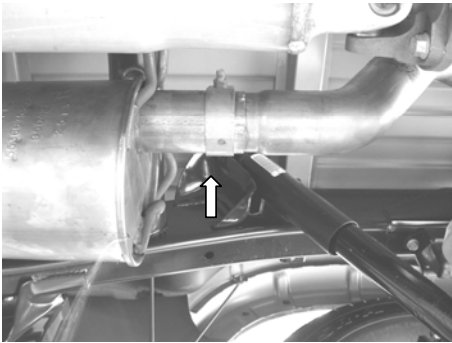

Figure 3
5. Unbolt clamp shown in figure 3 just behind the front muffler assembly.